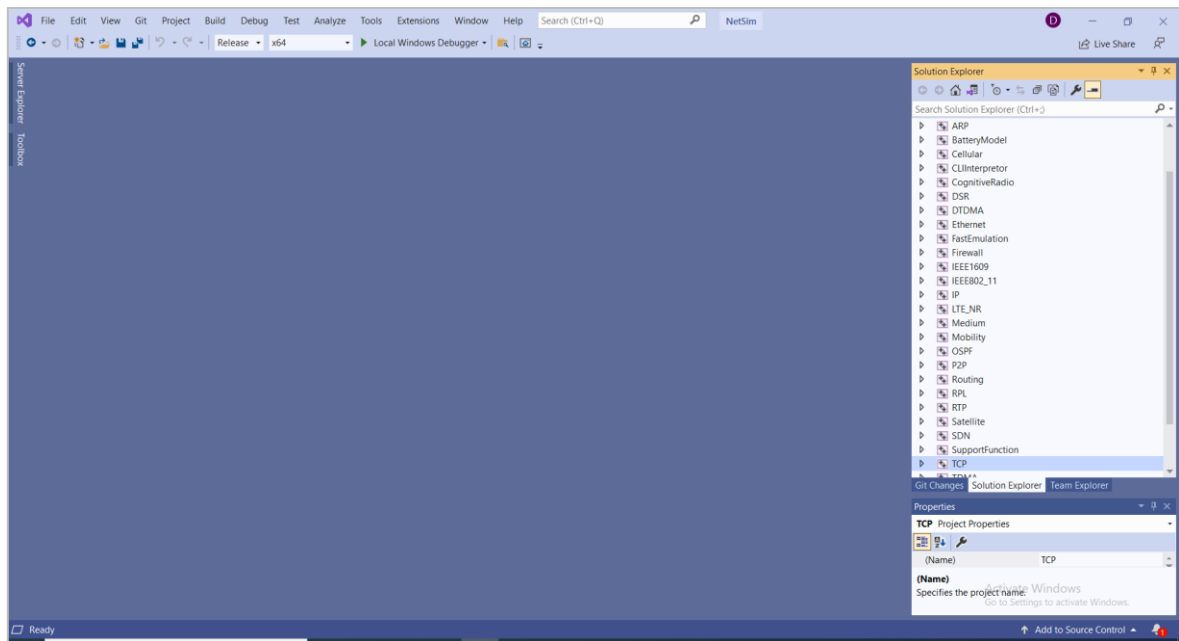

Figure 9-6: Based on the build of NetSim select x64 in Visual studio
- By default, x64 is chosen for 64-bit version of NetSim. These changes will be automatically applied to all projects that are displayed in the Solution Figure 9-6.